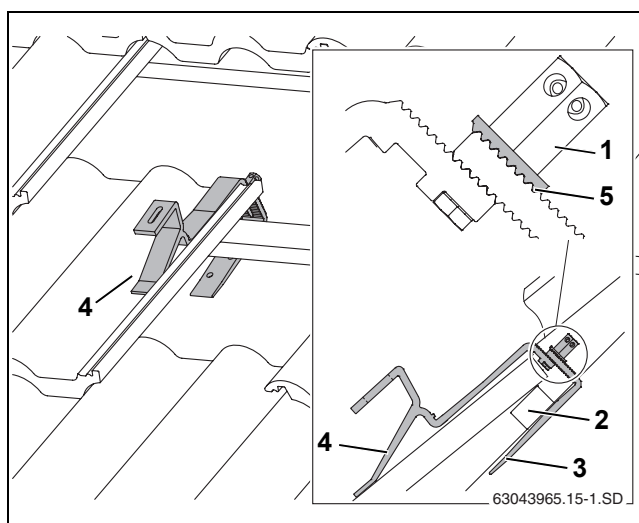

Fig. 14 Fixed roof hook (some tiles have been removed to show the example in more detail)
- ▶ Fit the roof hook so that the load rests in the front in a tile hollow (Fig. 14, [4]).
- ▶ Slide the front part of the roof hook (Fig. 14, [3]) until it rests in the batten (Fig. 14, [2]).
- ▶ Tighten the long hexagon nut (Fig. 14, [1]). To do this, insert a size 5 Allen key into the hole of the hexagon nut and turn.
The serrated washer (Fig. 14, [5]) must fit into the lower part of the roof hook.
- ▶ With some roof coverings it may be necessary to pack the lower part of the roof hook (Fig. 14, [4]) with boards so that the upper part of the roof hook lies on top of the tile.